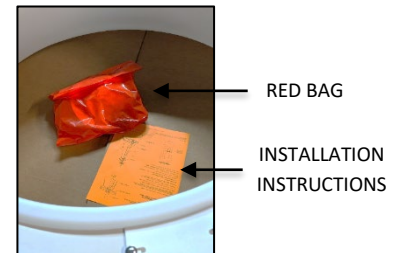

FIG. 6 RED BAG AND INSTALLATION INSTRUCTIONS
3. INSTALLATION INSTRUCTIONS (shown in FIG. 6) - Please completely read the install instructions before starting installation.
4. RED BAG (shown in FIG. 6) contains below following items